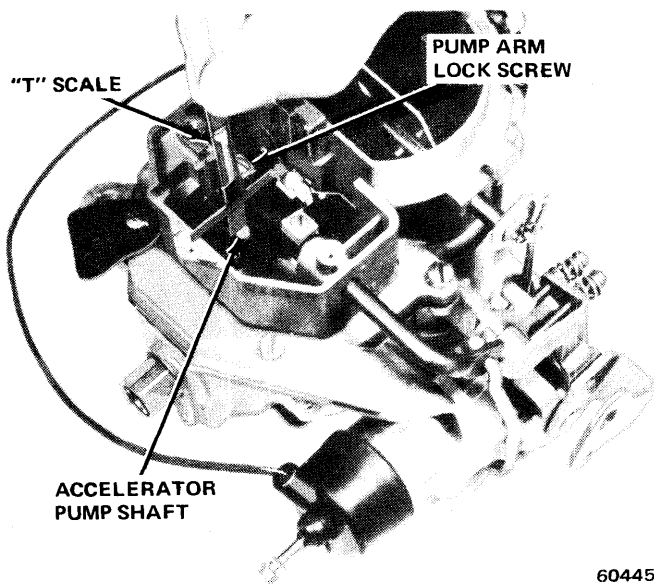

Fig. 4-58 Accelerator Pump Adjustment
(1) Remove dust cover.
(2) Back off curb idle speed adjusting screw to completely close throttle valve. Open choke valve so fast idle cam allows throttle valves to seat in bores.
(3) Turn curb idle adjusting screw clockwise until it just contacts stop. Then continue two complete turns.
(4) Measure distance between surface of air horn and top of accelerator pump shaft (fig. 4-58). Refer to Specifications for correct dimension.
(5) Loosen pump arm adjusting lock screw and rotate sleeve to adjust pump travel to proper measurement. Tighten lock screw.
(6) Install dust cover.